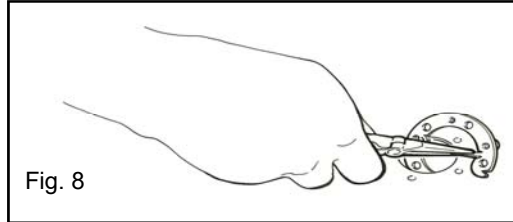

Fig. 8
- Hold one of the tabs with a needle nose pliers, and insert the backing plate into the 1-5/8" hole in the tank. When installing, insert the end **without** a notch into the tank opening first. See Fig 8.